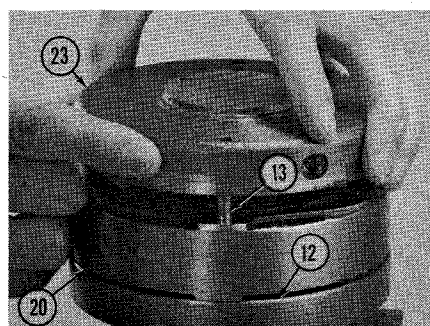
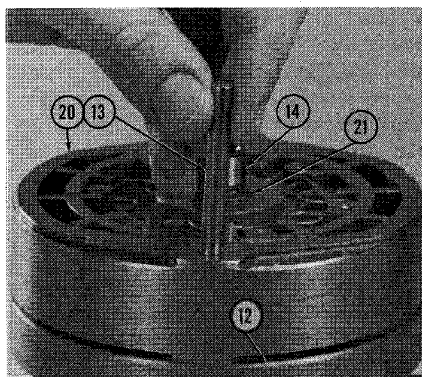
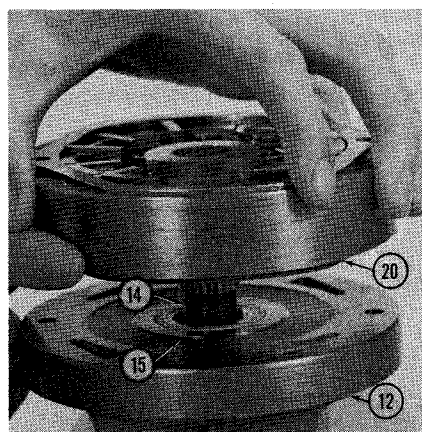

Fig. 16—Lifting pressure plate (23) from dowel pins (13).
Fig. 17—Removing dowel pins (13) from motor ring and housing. Then, remove the snap ring (21) retaining rotor to actuator shaft (14).
Fig. 18—Lifting the motor ring, rotor and vane assembly (20) from actuator shaft (14) and housing (12).
plate spring (27), then lift off the pressure plate (23) as shown in Fig. 16. Remove the dowel pins (Fig. 17), then remove snap ring (21) from shaft (14) with suitable snap ring pliers and screwdriver; discard the snap ring. Pull pump ring and rotor assembly (20) up off of shaft as shown in Fig. 18. Tap outer end